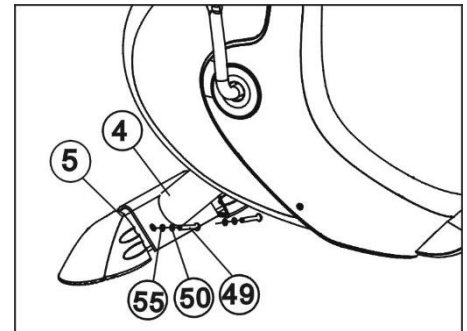

Figure1
Attach the Front stabilizer (5) to the Main frame (4) with two M8*20 bolt (49), Φ8 Flat washer(55) and Φ8 spring washer(50).(Refer figure 1)